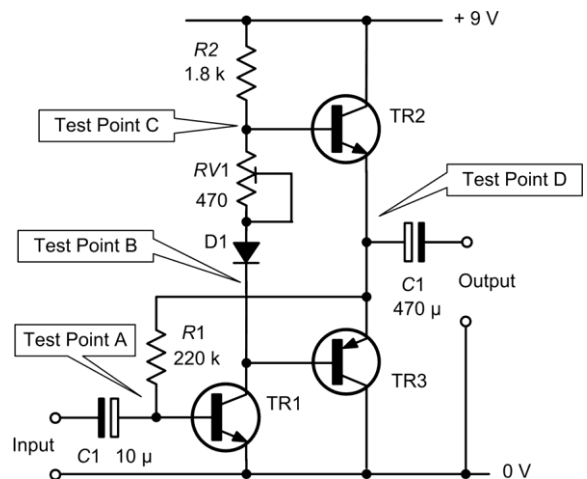

Figure 7.56 See Questions 7.9, 7.12 and 7.13
- 7.9 Fig. 7.56 shows a simple audio power amplifier in which all of the semiconductor devices are silicon and all three transistors have an h_{FE} of 100. If RV1 is adjusted to produce 4.5 V at Test Point D, determine the base, emitter and collector currents and voltages for each transistor and the voltages that will appear at Test Points A to C.
- 7.12 The following r.m.s. voltage measurements were made during a signal test on the simple power amplifier shown in Fig. 7.56 when connected to a 15 Ω load:
- 7.13 If the power amplifier shown in Fig. 7.56 produces a maximum r.m.s. output power of 0.25 W, determine its overall efficiency if the supply current